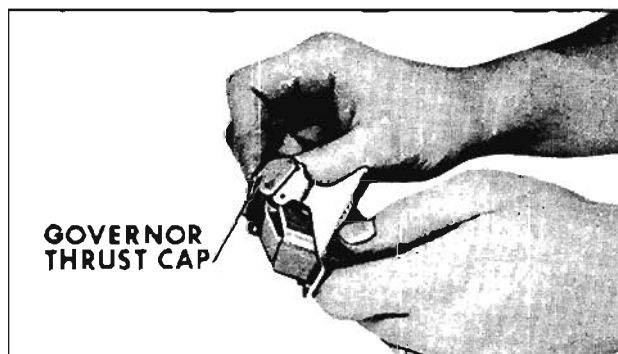

Fig. 6-374 Removing Thrust Cap
3. Remove governor thrust cap. (Fig. 6-374)